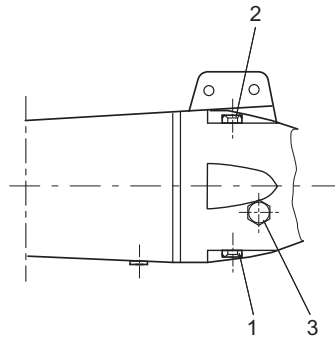

Fig. 19 Position of oil drain and oil filling screws
1. Remove the screw (pos. 2). See fig. 19.
2. Loosen and remove the oil drain screw (pos. 1), and allow the oil to drain from the chamber into a glass. Leave the oil in the glass for approx. 10 minutes and check if it contains water. If the oil contains water, the shaft seal must be replaced.